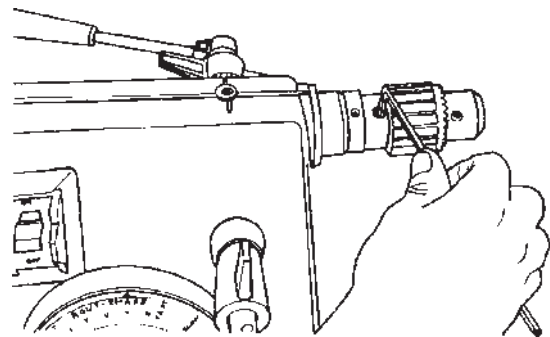
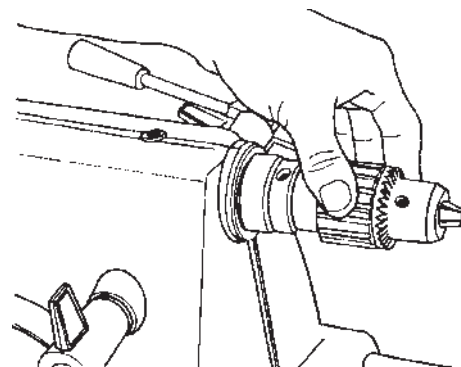

Figure B-113
Figure B-114
86. Mount the drill chuck on the spindle, as shown in Figure B-113. Completely close the chuck jaws, as in Figure B-114.